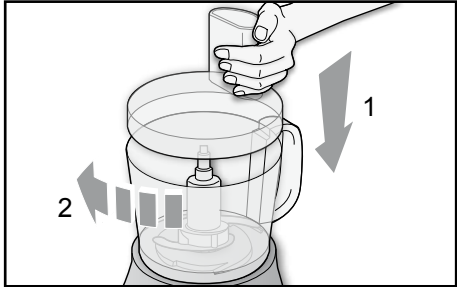

Fig. 7
- Cut the foods into small pieces and place them inside the bowl (D) or for mixing, insert the ingredients.
- Fit the lid (E) over the bowl (D) moving the mark inside the bowl (D) so that it is in line with the symbol (🔒). Block the lid (E) so it clicks into place by moving it clockwise (🔒) (Fig. 7).
- Start the appliance, selecting the rotation speed of the blade using the operating dial (A).